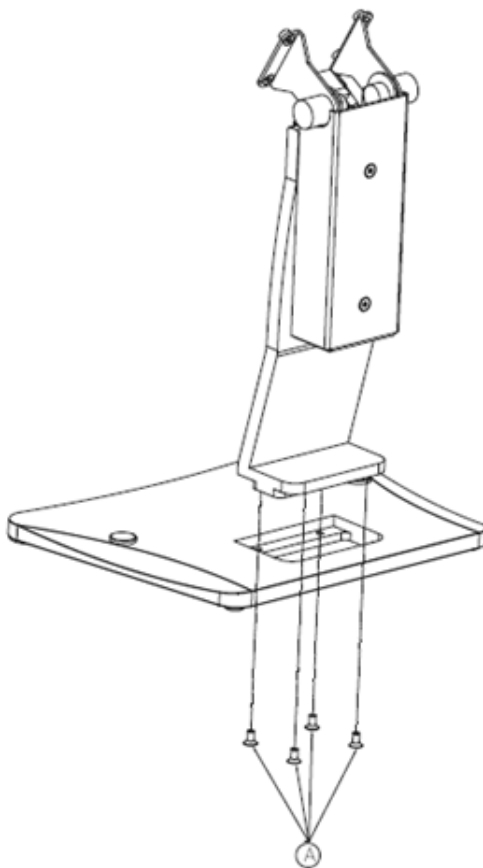

Figure 2.35 Securing the VESA mount base
2. Use four M4 x 8L screws to secure the base plate to the mount stand (Figure 2.35).